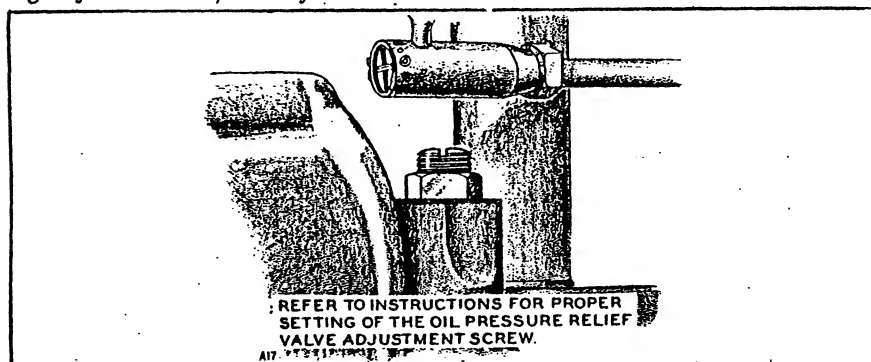

FIG. 26- OIL PRESSURE RELIEF VALVE ADJUSTMENT
**OIL PRESSURE RELIEF VALVE ADJUSTMENT.** - The oil pressure the plant can be easily adjusted by means of the slotted stud and locknut located just low the governor linkage. See Fig. 26. Oil pressure reading when plant is thoroughly warmed up is from 25 to 40 pounds. In increase oil pressure, loosen the locknut and turn the stud in. To decrease pressure, loosen the locknut and turn the stud out. Be sure to tighten the locknut securely after making an adjustment.